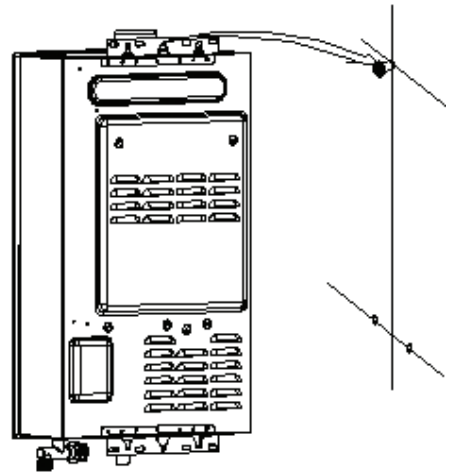
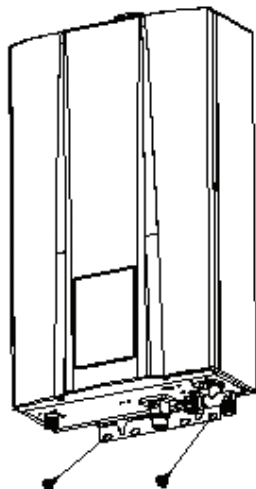

Figure 5.6
Figure 5.7
- Drill holes in the wall according to Figure 5.6, Figure 5.7 and Figure 5.8, it is strongly recommended that strong fixings are used in the top and bottom securing holes.